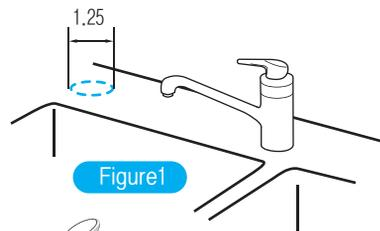
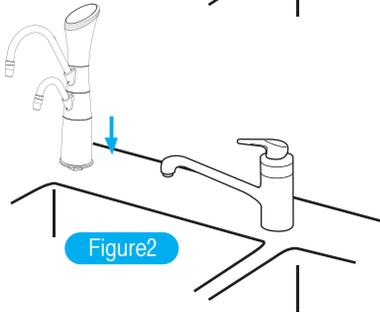

Figure1
Figure2
- 2 Connect 1/4 in. (PE) hose to the diverter in "Figure 2". Shown above.
- 2 Connect 1/4 in.(PE) hose to the t-adapter in "Figure 2"
- Take hold of the **A** filter securely with your hand, press the top of filter firmly down against the spring loaded mechanism (figure 1) to disengage the top of the filter then pull it toward you (figure 2) and up to remove it.